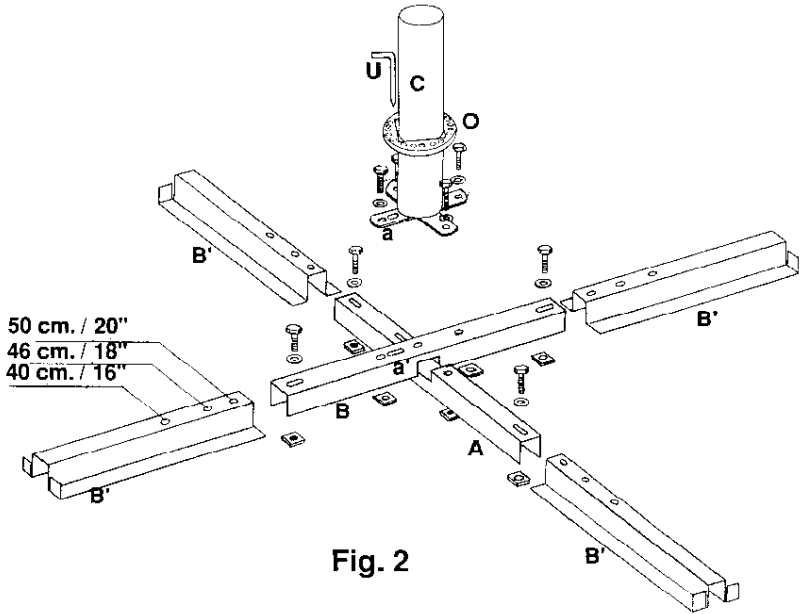

Fig. 2
BASE ASSEMBLY (fig. 2 - fig. 2 Bis)
Assemble the base as shown in fig 2.
ROTATION OF THE UMBRELLA AROUND THE BASE (fig. 5 - fig. 2)
The key (U) must be inserted into the adjustment ring (O) at hole (a) of the base pole (C) (fig. 2).